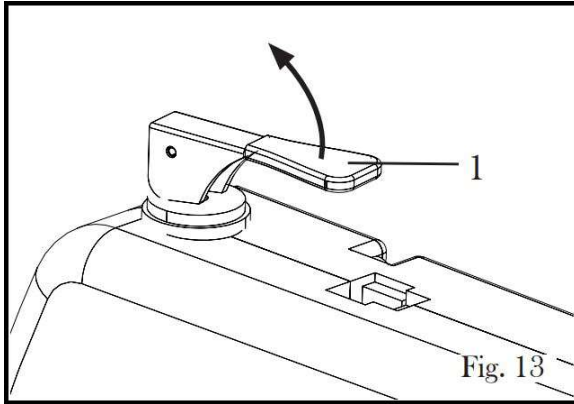

Figure 13
1. In order to remove the blade, loosen the tension on the blade by lifting up the blade tensioning lever (1) and turn it counter-clockwise to loosen the blade holder. See Figure 13.